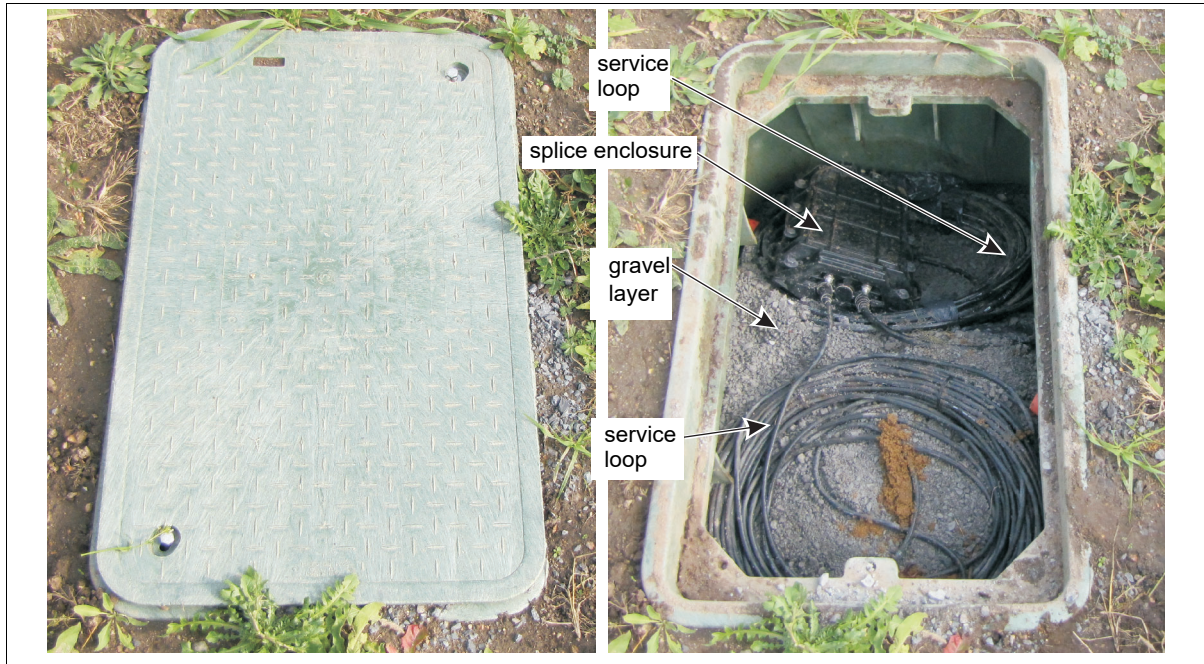
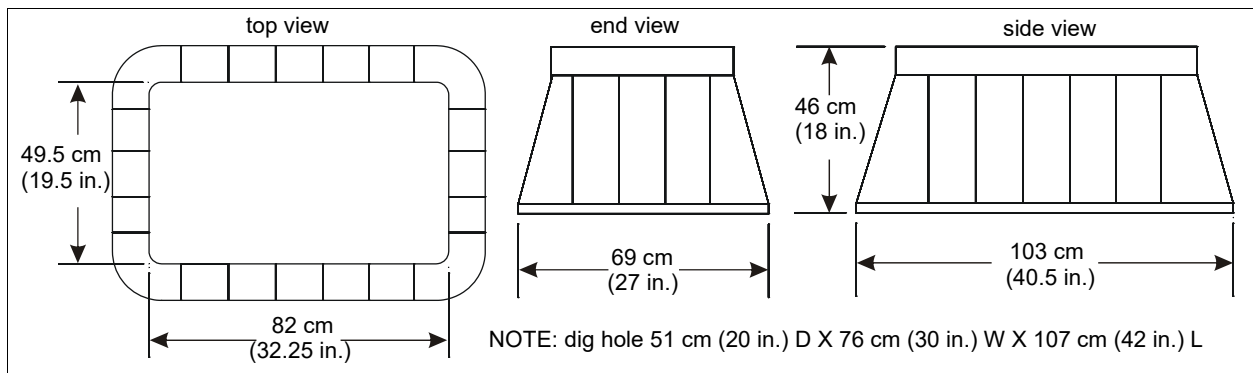

Figure 67: Ground level buried vault closed and open
Figure 68: Buried vault dimensions
- for outdoor splices the weatherproof enclosures are protected inside buried vaults (see Figure 67: and Figure 68:)